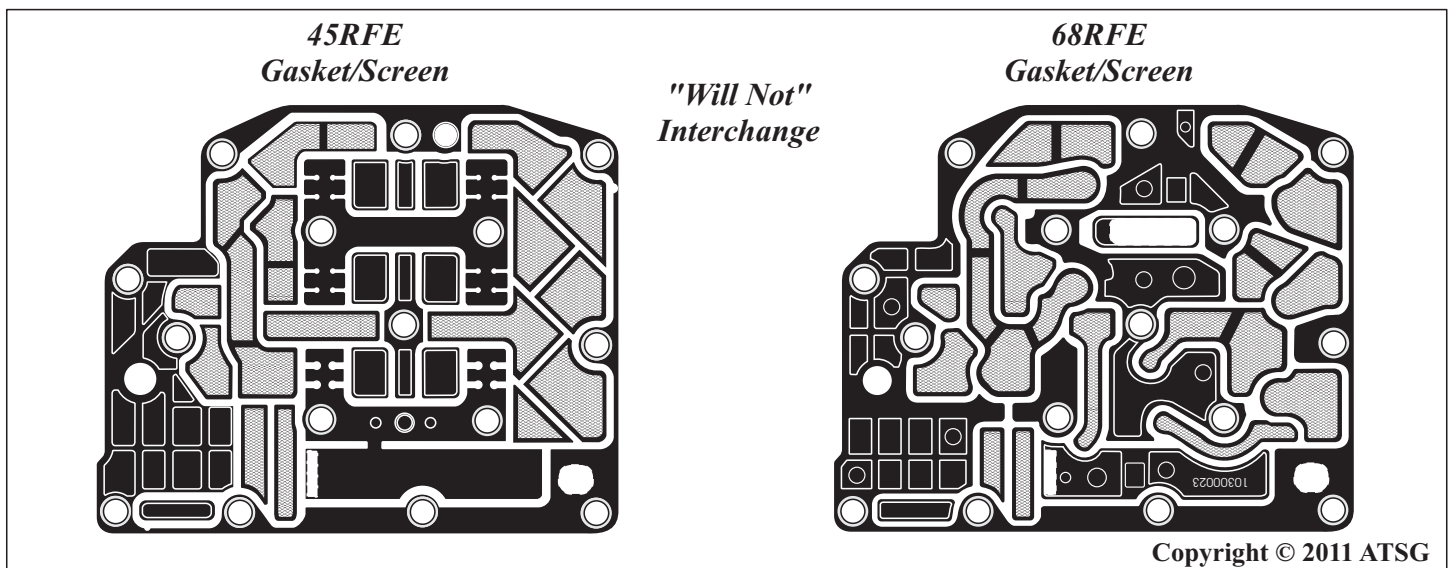

Figure 133
*Note: The Gasket/Screen assembly is different between the 45RFE and 68RFE and "will not" interchange, as shown in Figure 133.*